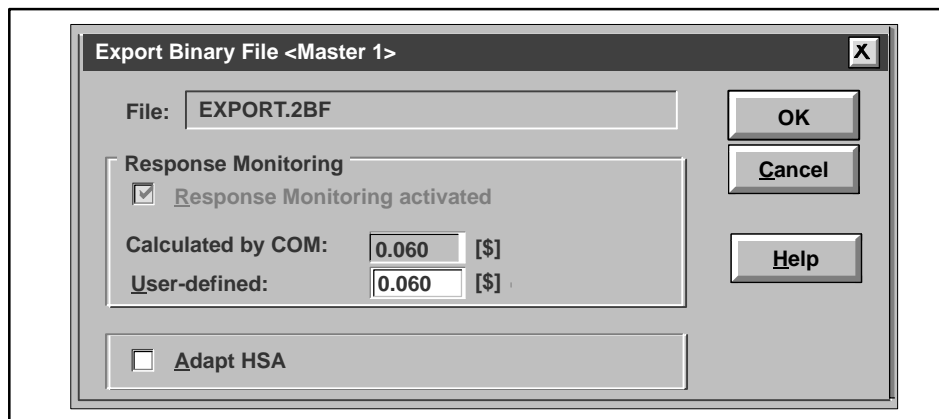

Figure 9-11 Export Binary File Dialog Box
5. Click **OK** on the confirmation dialog box (Figure 9-11). The file is exported to APT.